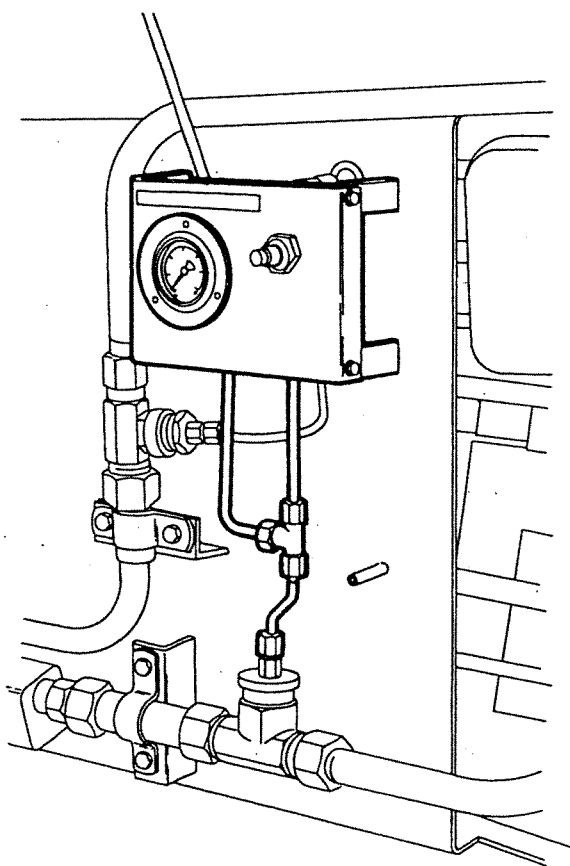

Figure 4-17. Bow Thruster Hydraulic Pressure Gage
4. Check bow thruster hydraulic pressure gage in engine room (Figure 4-17).